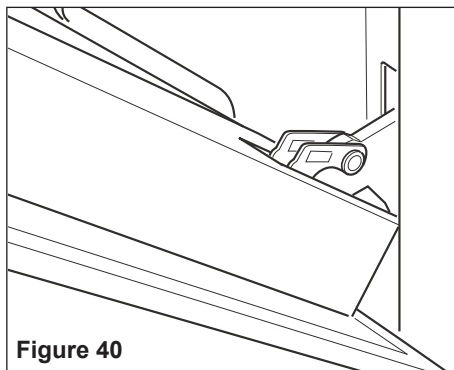

Figure 40
1. Make sure the door is locked open (see fig. 40).